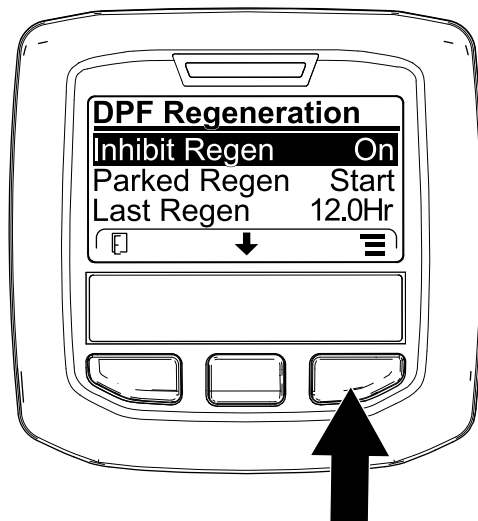
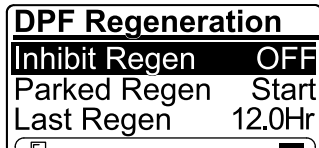

Figure 47
Figure 48
1. Access the DPF Regeneration menu, press the center button to scroll down to the INHIBIT REGEN option, and press the right button to select the Inhibit Regen entry (Figure 47).
- Press the right button to change the inhibit regeneration setting from On to Off (Figure 47) or from Off to On (Figure 48).